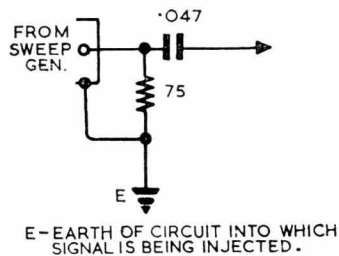

Fig. 2.
These instruments should be interconnected as described in the instructions supplied with the sweep generator. This generator should be terminated with a resistor equal to the output impedance, and connected to the receiver as shown in Fig. 2.
- (a) Using the termination network as shown in Fig. 2, connect sweep output between pin 3 of V5 and earth.